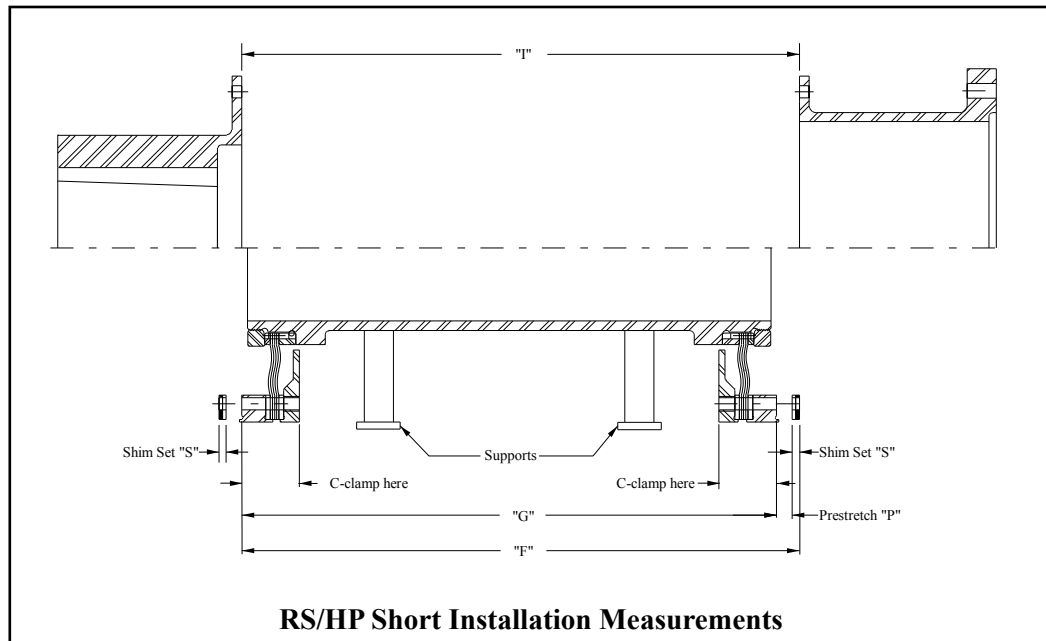

Figure 4-9
4.4.3.1 Measure and record , on the worksheet provided in Paragraph 4.4.5, the installation length “T” (distance between mounted flange faces) at four (4) places approximately 90° apart (see Figure 4-9).
4.4.3.2 Assemble the spacer rings, as shown on the Ameridrives Sales Drawing, onto both ends of the diaphragm pack sub-assembly taking care to re-align the matchmarks and end identification letters. Install a minimum of four (4) bolts approximately 90° apart through each spacer ring and tighten the bolts evenly in a criss- cross pattern to seat the pilots. On some size couplings the grip length of the bolts is too long to allow seating of the pilots in this manner. When this condition exists, a spacer plate, washers, shorter bolts, or C-clamps (not supplied) may be required to seat the pilots. Support as shown in Figure 4-9).
4.4.3.3 Measure and record, on the worksheet in Paragraph 4.4.5, the coupling free length “G” (distance between spacer ring outer flange faces) at four (4) places approximately 90° apart. It is recommended that C-clamps be used to compress the diaphragm pack at the location the measurements are being taken (see Figure 4-9).